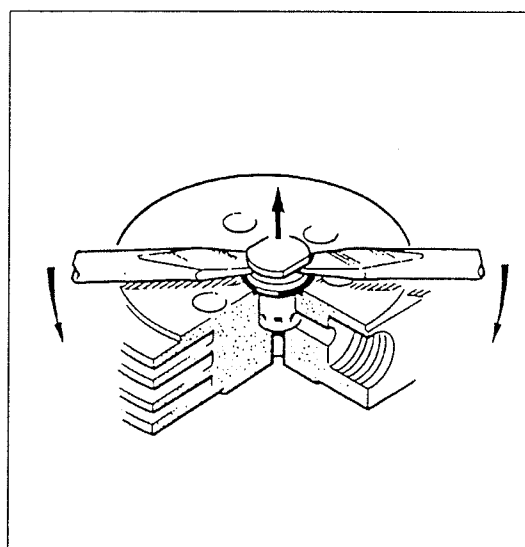

Fig. 16 Removal of 3rd stage pressure valve
- Remove two captive nuts (1) and spring-washers (2).
- Remove plate (3).
- Remove valves (4) and (7) using two screwdrivers as shown in Fig. 16.
- Assemble in reverse sequence. Position spring-washers with curved side facing upwards. Fasten nuts so that plate (3) is parallel to the valve head. Torque with 10 Nm (1 kpm).
- Unwind screw (1) a couple of turns.
- Remove allen screws (7), take off valve head cover (6).
- Put two screwdrivers into the groove of pressure valve body, see Fig. 16. If necessary turn valve loose at first using a 13 mm spanner on the flat surfaces.
- Lift out pressure valve (3) together with O-ring (2).